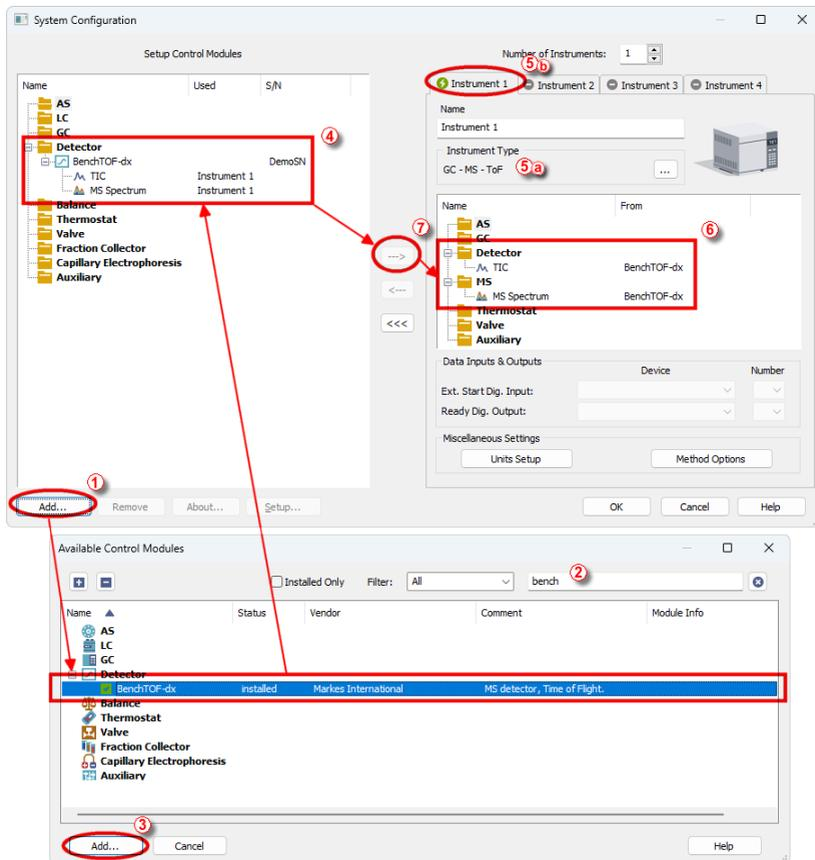

Fig. 2: How to add Markes BenchTOF
- Press the **Add** button ① (see **Fig. 2** on pg. 3.) to invoke the **Available Control Modules** dialog.
- You can specify the searching filter ② to simplify the finding of the driver.
- Select the **Markes BenchTOF** and press the **Add** ③ button.